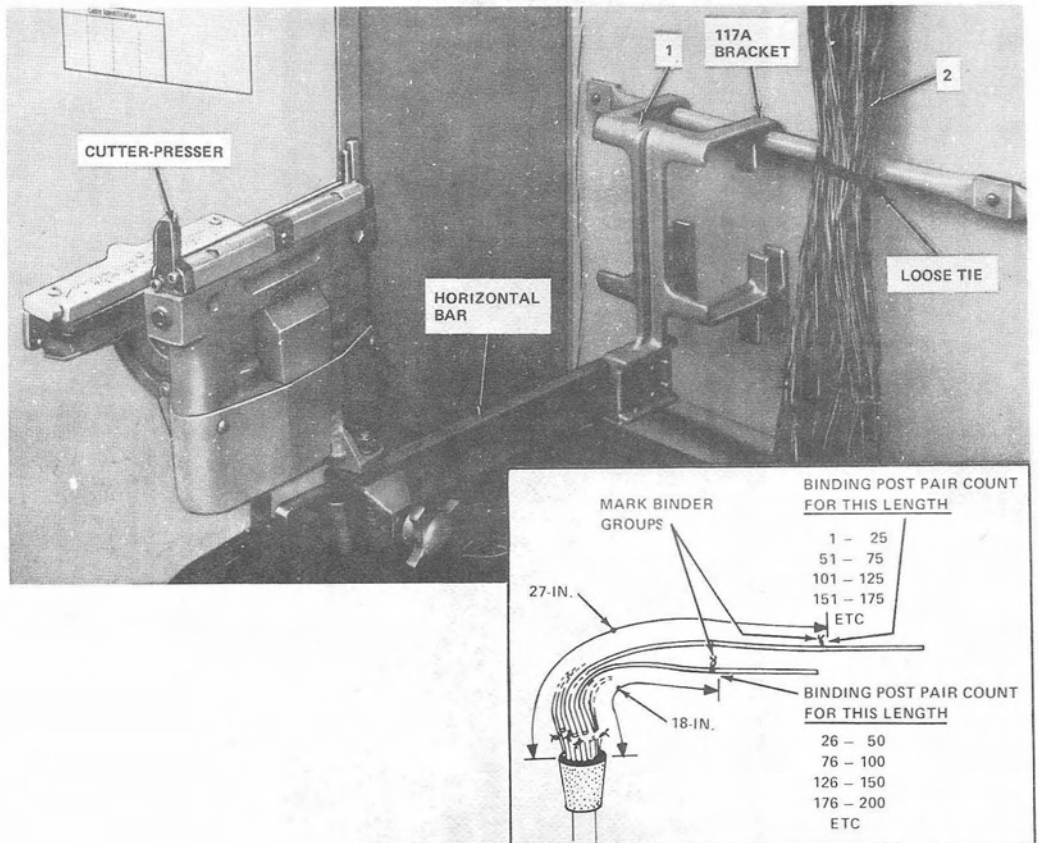

Fig. 8—Setting Up Cutter-Presser for Splicing Raw-Ended Wiring Harness
(3) Raise the frame to a vertical position and secure by tightening the screw-spring assemblies.
(4) Replace the stay rods on the doors and secure with a pin.
- 6.04 Set up and splice the wiring harness to the cable as shown in Fig. 8 and 9 and as outlined in the related procedure following each figure.